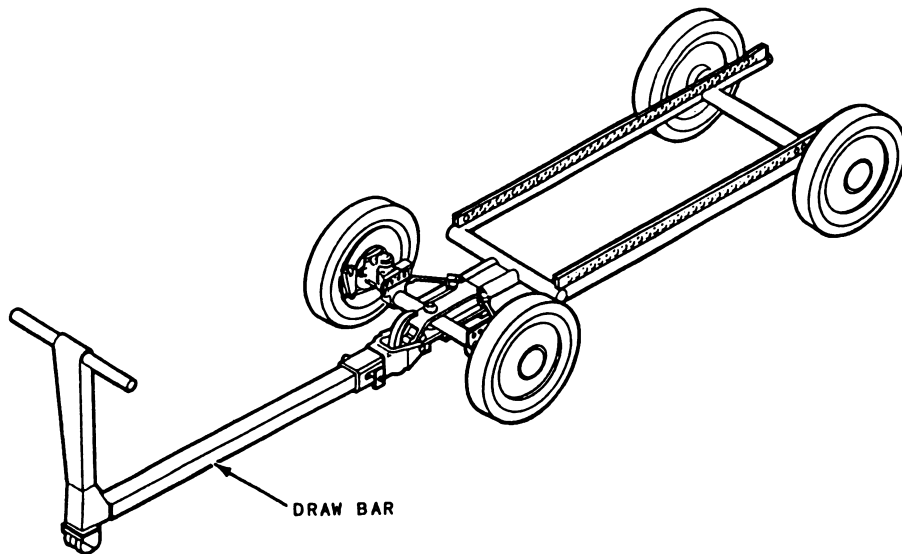

Figure 10-24.—MHK-128/M32K-5(V) munitions transporter.
The MHK-128/M32K-5(V) munitions transporter (fig. 10-24) consists of a frame assembly with 53 pairs of mounting holes, four 14-inch wheels with solid tires, and a retractable or nonretractable drawbar. It has a mechanically actuated deadman and drum brakes on the two front wheels. Release the brake using the hand lever on the drawbar handle. You steer the transporter by horizontally moving the drawbar.